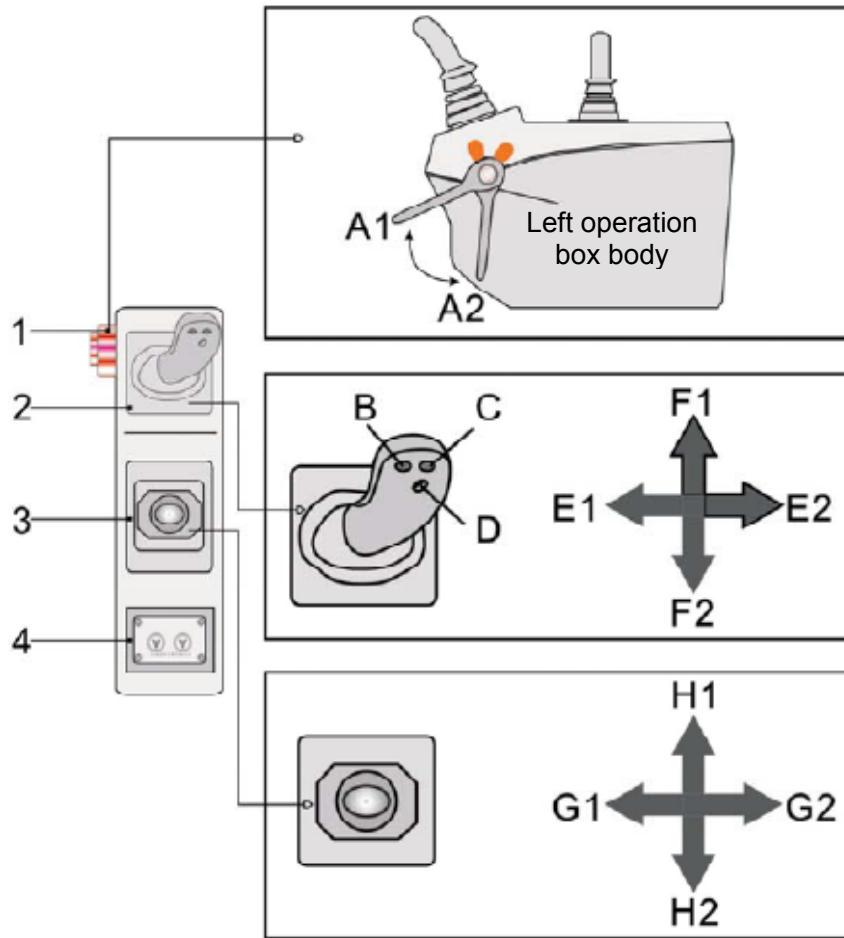

Fig. 4-5 Left operation box and joystick
- (2) Turn the dead-man's joystick outside the left operation box from vertical to horizontal (No. 1 in Fig. 4-5).
- (4) Press the horn button (knob B in Fig. 4-5) to sound the horn, and then operate the traveling pedal (No. 2 and No. 3 in Fig. 4-2).
- (5) The advancing of the drilling rig can be achieved through operating the left and right crawler traveling pedals forward at the same time; the reversing of the drilling rig can be achieved through operating the two pedals backward at the same time.
- (1) First, press the horn button (Knob B in Fig. 4-5) to sound the horn.
- (2) Press down the slewing protection button on the joystick of the left control box and pull the joystick outwards. Then the slewing platform can turn anticlockwise (leftwards); pull the joystick inwards, and then the slewing platform turns rightwards. During this operation, if button D has not been pressed, or if this button and the wiring are faulty, the platform will remain static. (No. 2 in Fig. 4-5)
- (1) The mast raising joystick (see No. 3 in Fig. 4-5) on the left control box is provided for raising or lowering the mast. Pull the joystick forward and the mast is raised; pull the joystick backward and the mast is laid flat.
- (2) During practical operation of the mast, it will lean leftward/rightward due to various reasons. If the mast leans, adjust it at all times according to the data displayed dynamically on the display. If the mast leans leftward during the raising operation, pull the joystick forward. Meanwhile, adjust the joystick's inclination angle inward properly to reduce the mast's leftward inclination. If the mast leans rightward, adjust the joystick's inclination angle on the opposite side. Perform these steps until the mast is raised as required by the operation. If the mast is inclined when it is being lowered, the same steps are applicable.